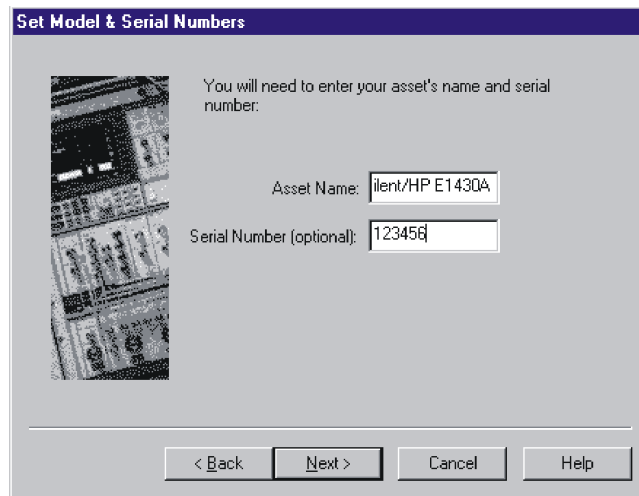

Figure 1-24 Choose Model and Serial Number
- 6 In the **Set Model & Serial Numbers** box (Figure 1-24):